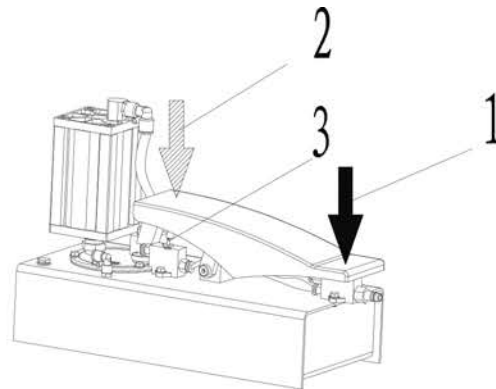

fig9
- press the pump pedal on the "PUMP" side 1 (**Fig. 9**).
- Press the pump pedal on the "RELEASE" side 2 (**Fig. 9**) so that the shafts rest against their bearing surfaces.
- press the release lever 3; (**Fig. 9**)
- press the pedal for descent "RELEASE" 2 (**Fig. 9**) while keeping the release lever 3 pressed.